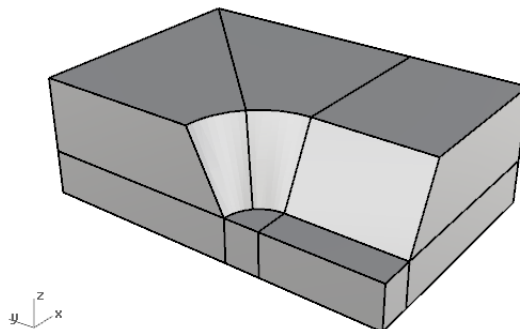

Figure 11: 3D slope example.
**BlockRanger** controls local mesh resolution by manually setting individual edge resolution. A short example is provided below. Hands-on information can also be found in the *Griddle 2.0 Tutorial Examples, Tutorial 4: Creating a Structured Mesh with BlockRanger*. Figure 11 shows a model representing a 3D slope. The model consists of 8 solids.